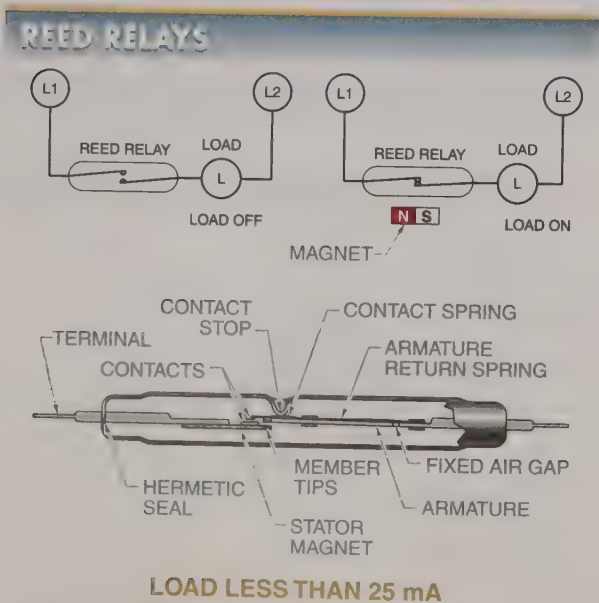

Figure 8-9. A reed relay is a fast-operating, single-pole, single-throw switch that is activated by a magnetic field.
A *reed relay* is a fast-operating, single-pole, single-throw switch with normally open (NO) contacts hermetically sealed in a glass envelope. See Figure 8-9. During the sealing operation, dry nitrogen is forced into the tube, creating a clean inner atmosphere for the contacts. Because the contacts are sealed, they are unaffected by dust, humidity, and fumes. The life expectancy of reed relay contacts is quite long.